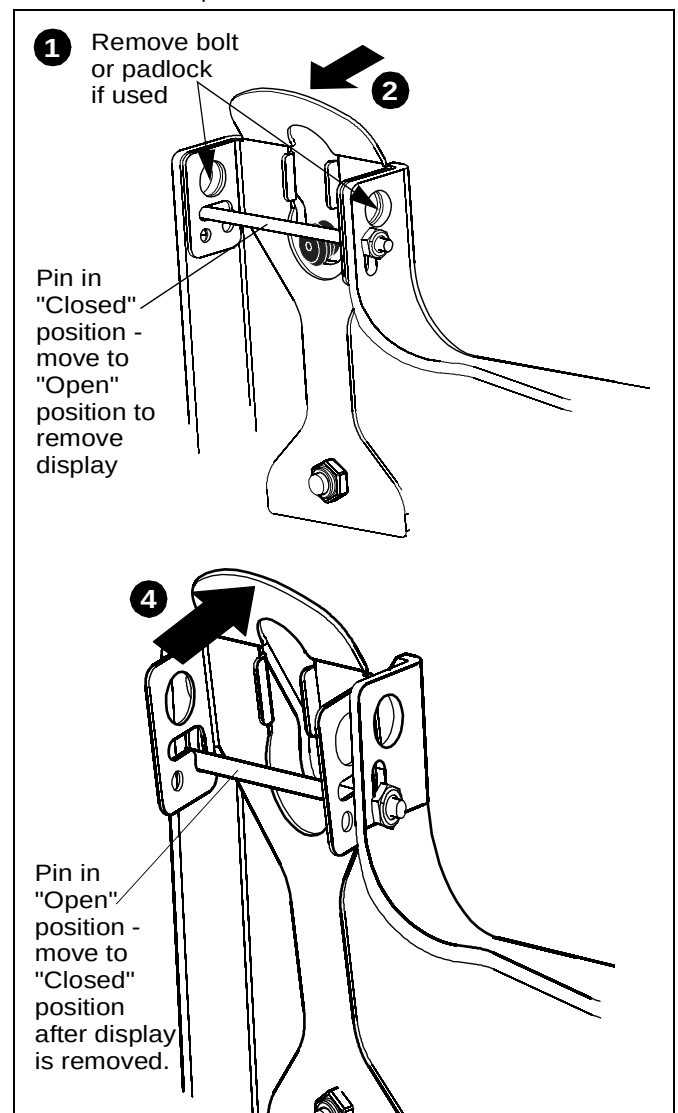

Figure 17
2. Pull back on flag on upper mounting hole and press pin down into "Open" position. (See Figure 17)